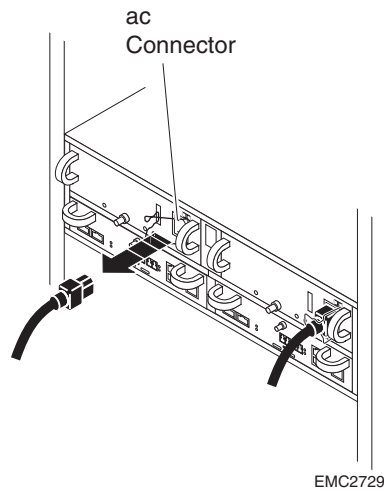
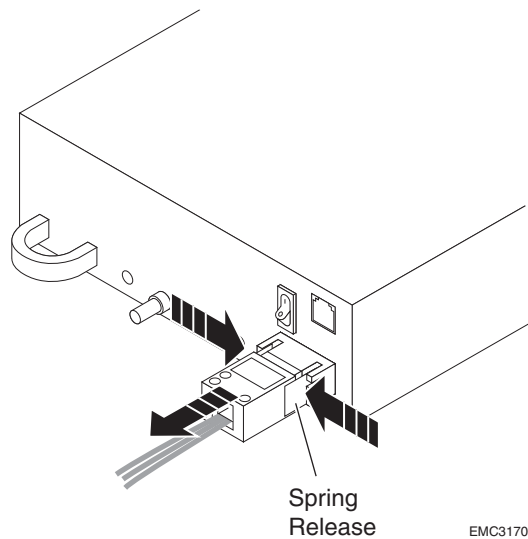

Figure 3-12 Unplugging the ac Power Cord
Figure 3-13 Unplugging the dc Power Cord
1. Turn any module power switch to off, then release any retention bail and unplug the ac/dc power cord. Figure 3-12 shows how to remove ac power cords; Figure 3-13 shows how to remove dc power cords.